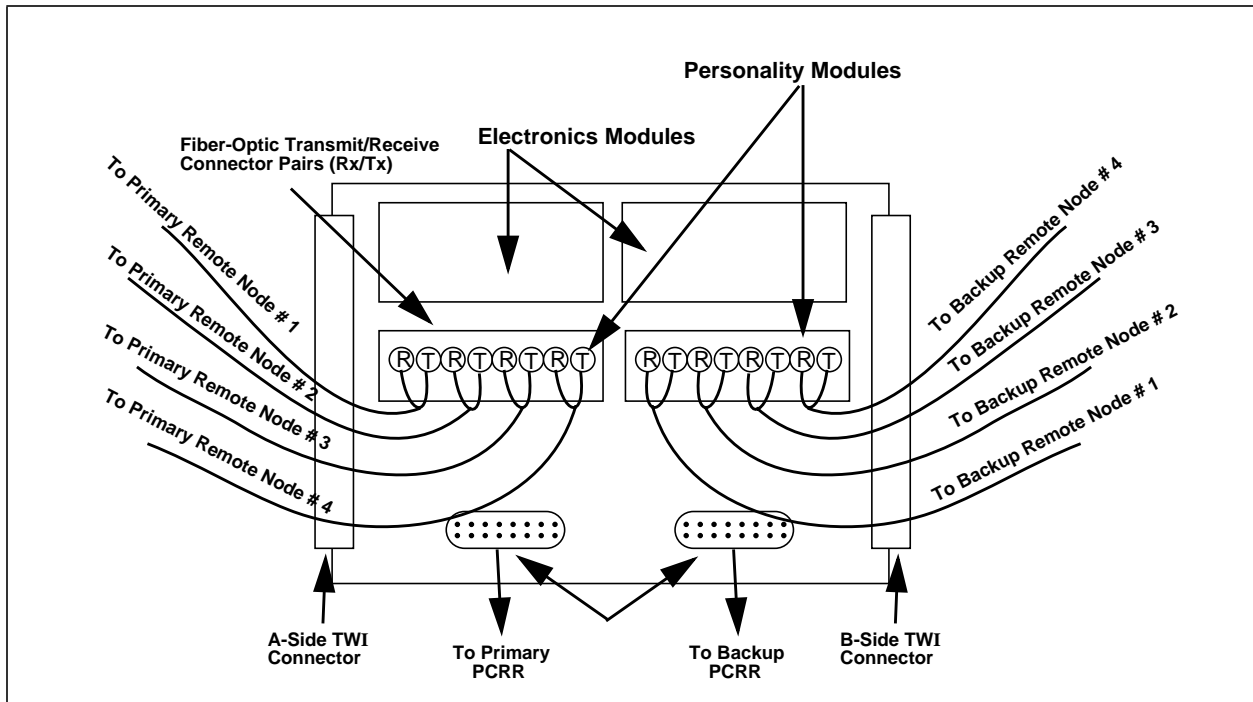
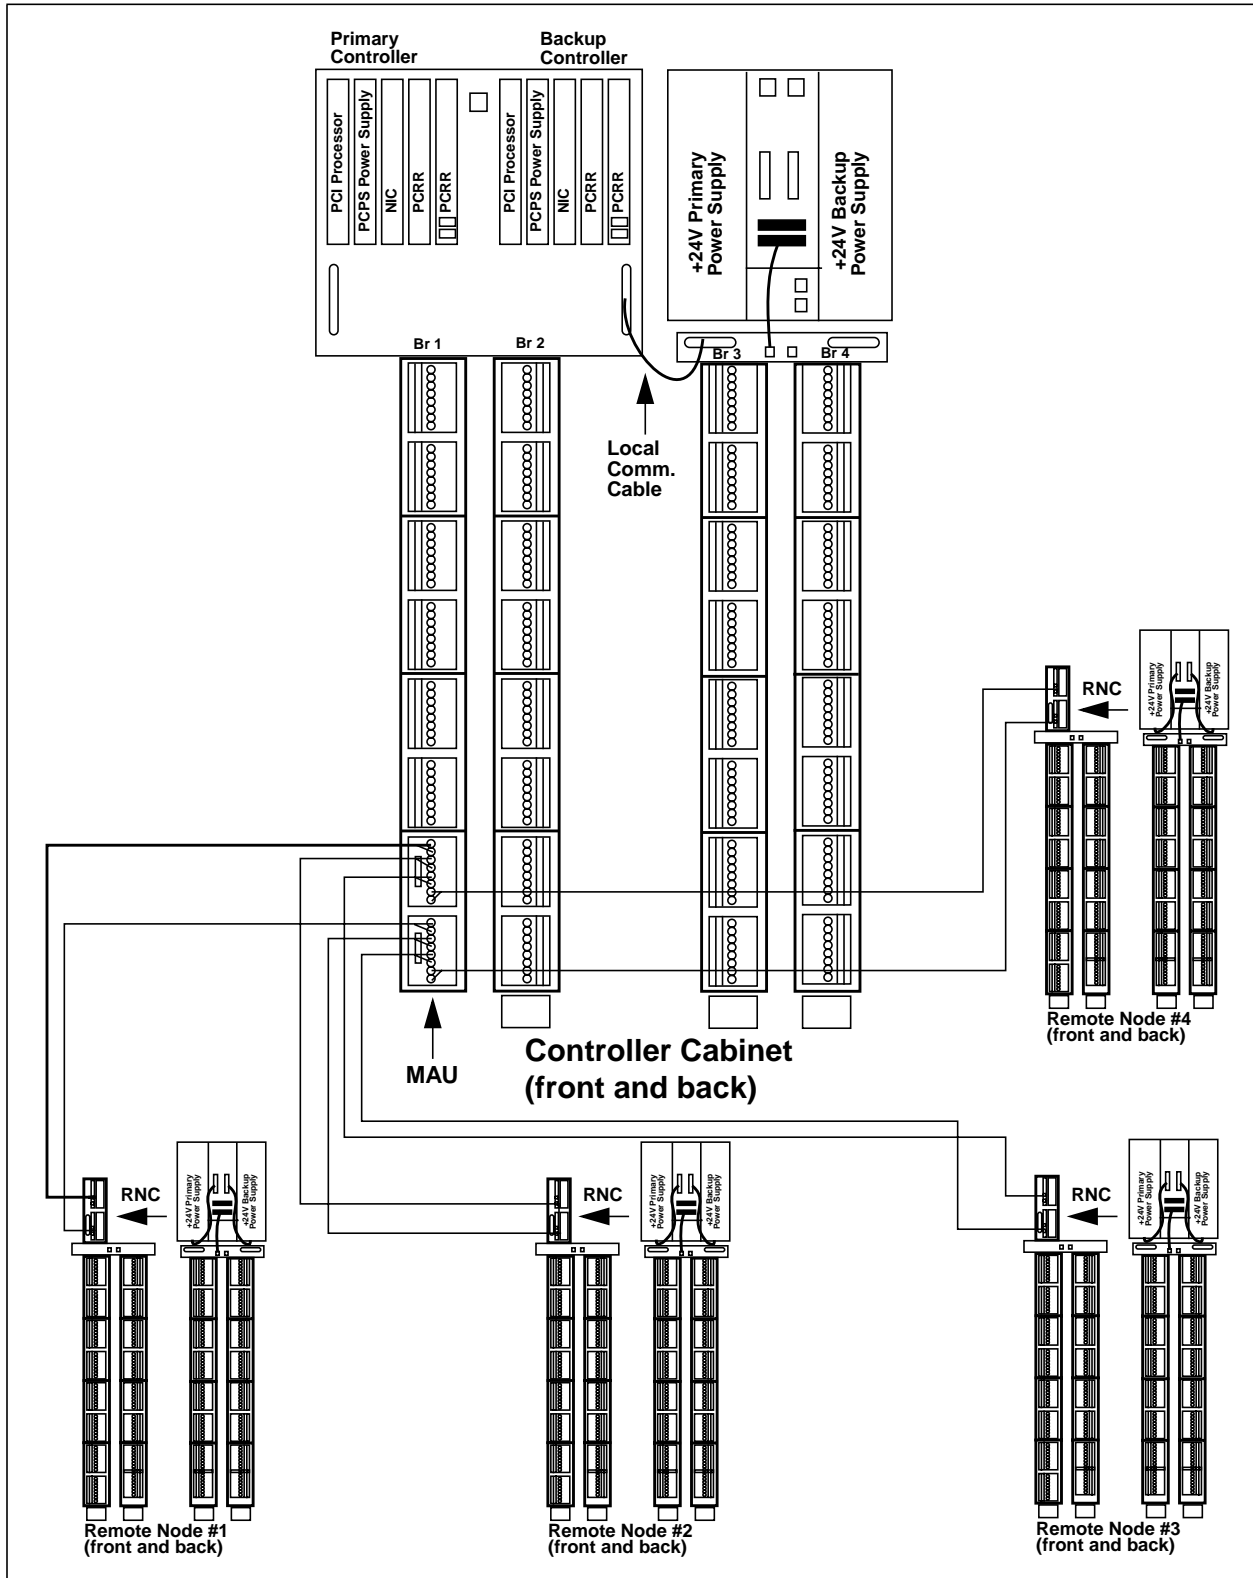

Figure 27-3. MAU with Typical Fiber-Optic Connector Pairs
Figure 27-4. Example of Typical MAU Cable Connections to Remote Nodes
- **Media Attachment Unit (MAU)** - This module (see Figure 27-3) provides a point of attachment for fiber optic cables used to transfer messages over long distances between the PCRR and up to four remote nodes (see Figure 27-4). The module directs messages between the PCRR and one of the four remote nodes at a time as selected, converting signals readable by the PCRR to signals compatible with the fiber optic media and vice versa. The following components comprise the MAU: